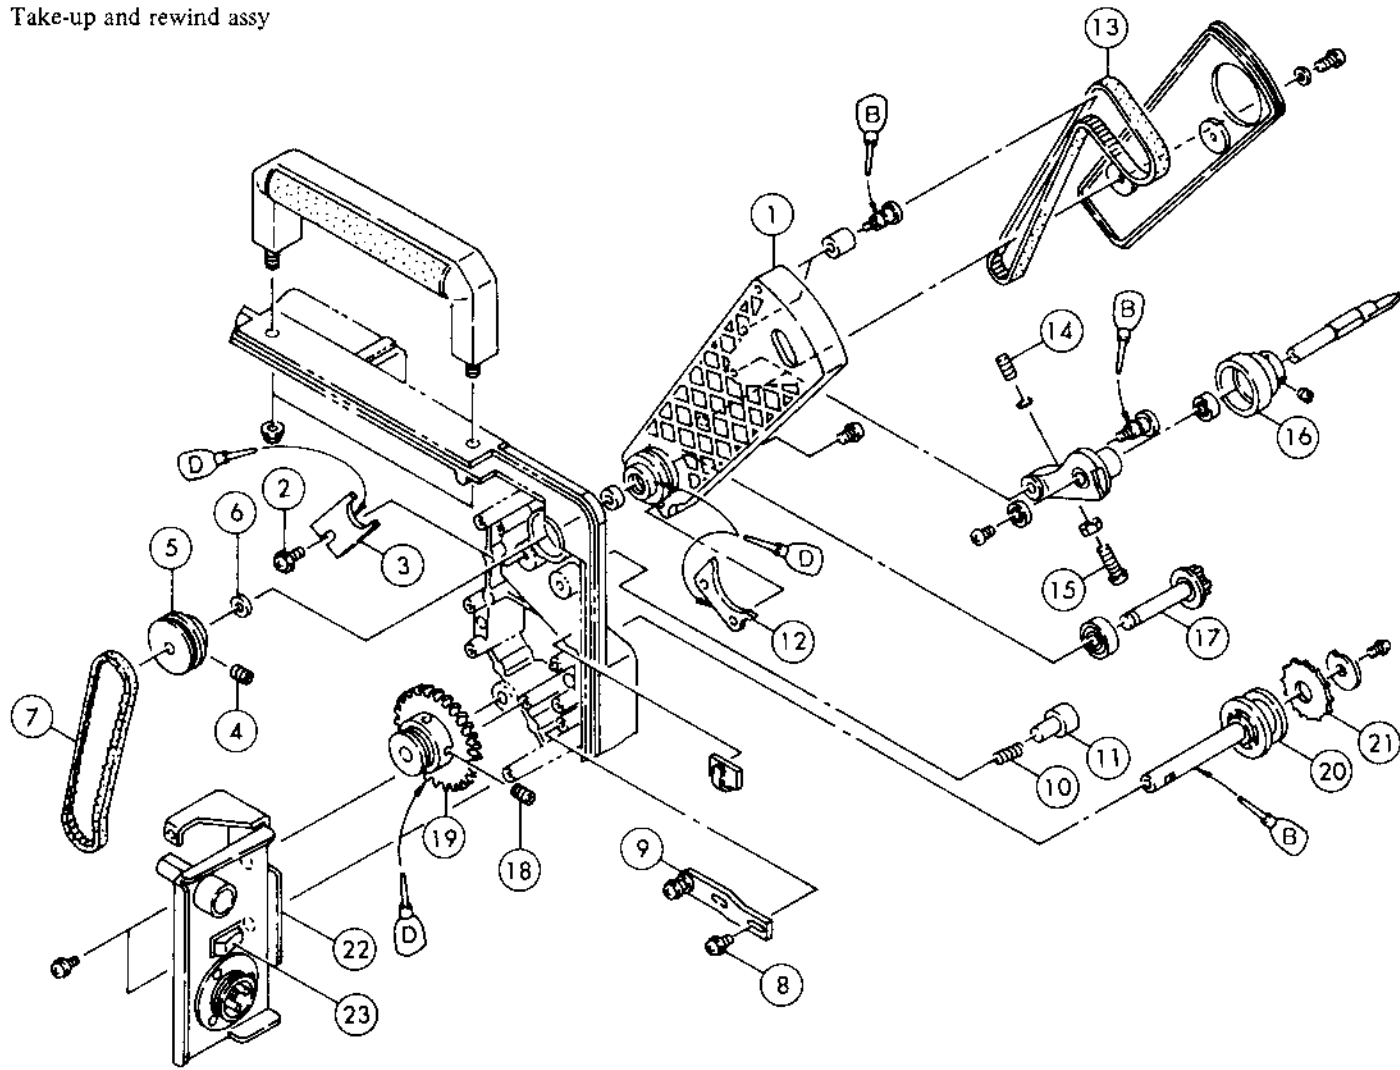

Fig. 18
1. Take out ③ by removing ②.
2. Pull out assy ① by loosening ④ main, taking care so as not to let ⑥ fall down, or ⑩ and ⑪ fly out. (The operations in items 1 and 2 can be done more easily after removing ⑦ by loosening ⑧ x 2 pcs. and shifting ⑨ after the fixing plate fan motor assy (see P. 35), amplifier (see P. 51) and fixing plate power jack assy ② are removed.)
3. Pull out ⑳ after removing ⑱ by loosening ⑱ x 2 pcs.
4. For further disassembly, refer to Fig. 18.